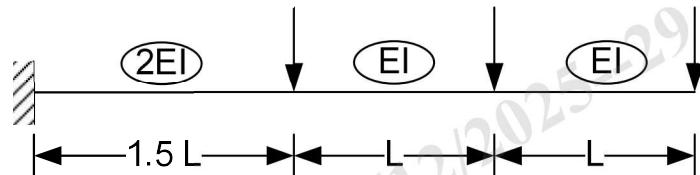

Figure 2
g) Explain: (I) Lower bound theorem, (II) Upper bound theorem and uniqueness theorem.
j) Develop the flexibility matrix for the cantilever with coordinates as shown in Figure 2.